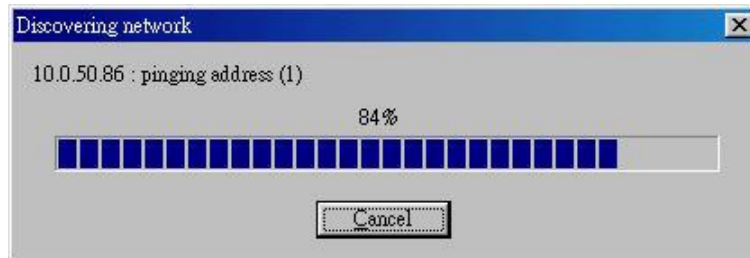

Fig. 40.
2. Click on “OK” and the following dialog box shall display the searching progress(Fig. 40)